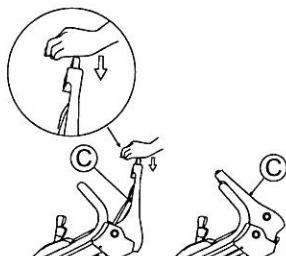

Fig. 2.
- 3 Push Blade lever (C) forward while pressing its yellow button. (See Fig. 2.) Then, the blade starts rotating.